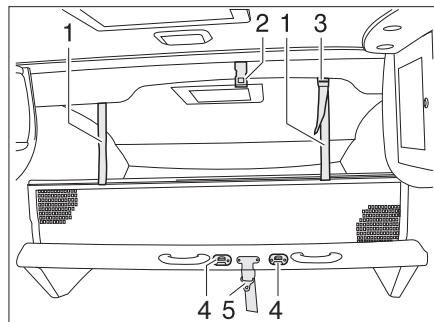

Fig. 158 Manual pull-down bed
- Secure the pull-down bed to the roof (Fig. 158,2) by means of the retaining belt (Fig. 158,5).
Attaching: ■ Hook the access ladder to the pull-down bed by attaching both brackets into the U-bolts (Fig. 158,4).
Setting up: ■ Fasten the retaining straps (Fig. 158,1) to the holders on the ceiling (Fig. 158,2).